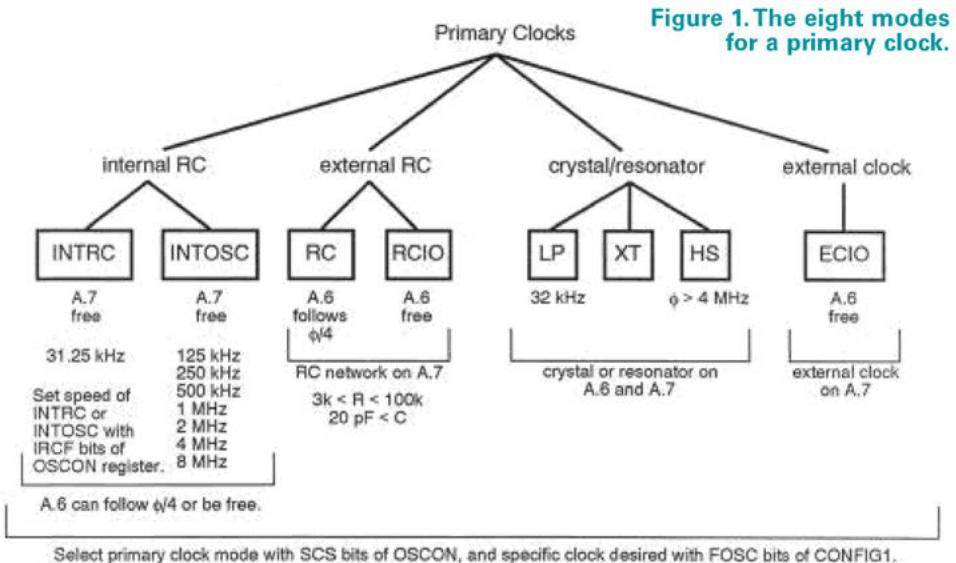

Figure 1. The eight modes for a primary clock.
■ FIGURE 1. Completed display unit on the dashboard of my electric truck.
When I set out to build a display for the system parameters in my electric truck conversion, the PIC16F819's peripherals made for a very compact and inexpensive dashboard-mounted unit (**Figure 1**). I realized this was a very specific application for what could be a simple general-purpose process monitor and display for analog and pulsed signals.
After all the names and formula variables are entered, the software resets and starts calculating and displaying your data with updates every half second. In **Figure 1**, you can see that my project's software and display format is slightly different from that described here because it's a dedicated unit that I don't plan to use for other purposes. If you have a similar permanent application in mind, you can omit the user interface buttons and input subroutines, and just hard-code the input names and variable values. The software described here (available at the article link) uses up just over 1.3K words of the PIC's 2K word Flash memory.
For now, let's focus on the primary clock which is all we need for most projects. Refer to **Figure 1** which shows what's available. This tree diagram organizes the types of primary clocks available within the PIC16F88 in a top-down fashion. To begin, look at the first branches of the tree diagram. A clock can be an internal RC affair or, if you prefer, you can supply your own resistor and capacitor and end up with an external RC arrangement. For situations that demand more precision, an external crystal or ceramic resonator can be employed. Lastly, if you'd like, you can drive the PIC with an existing external clock.
With that, we've concluded our overview of the primary and secondary clocks. Why not take a few moments to study **Figures 1** and **2** once more to really fix the distinctions and details in your mind before proceeding.